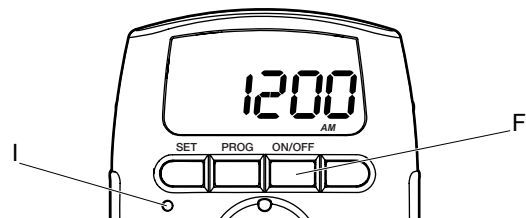

FIG 9. Performing a Factory Reset
1. Press and continue to hold the **ON/OFF** button (F).
2. Using a paperclip, press and release the **RESET** button (I).
3. Keep holding the **ON/OFF** button (F) until 'CLR' appears on the screen, then release.
4. When you see 12:00 AM displayed, your timer is ready for programming. See FIG. 9.